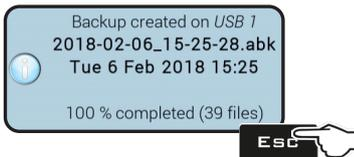
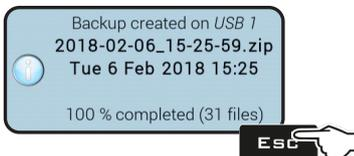

Fig. 293
Fig. 294
- A confirmation message (Fig. 293 / Fig. 294) appears once the saving is completed. Press **ESC**.